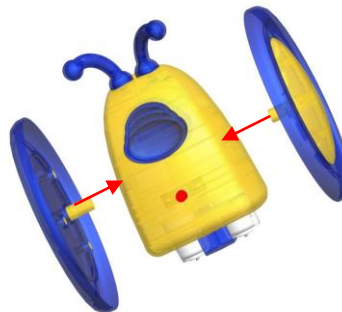

Fig. 14
12. Attach the wheels to the body. Done! (Fig. 14)